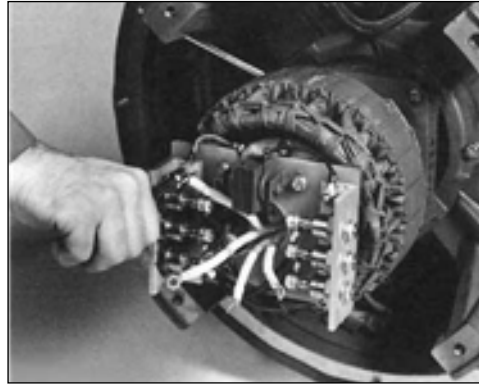

Figure 6-10
1. Note markings and disconnect the main rotor leads coming out of the aluminum standoff plate lead hole from the rectifier aluminum angle (figure 6-10).